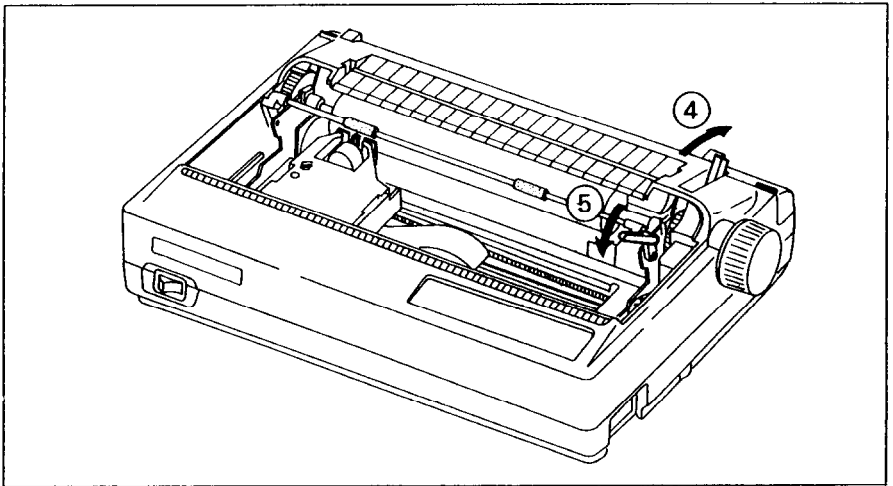

Figure 1-4. Move the release lever and the bail lever to mount the Automatic Sheet Feeder.
4. Move the release lever at the back of the printer to the down position as shown in Figure 1-4.